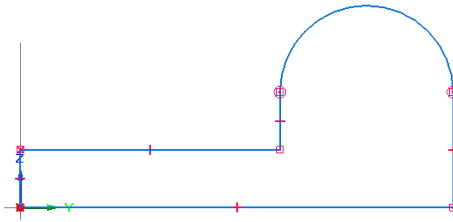

Figure 2-45 Outer loop of the profile for Tutorial 1
12. Click to specify the endpoint of the line. The profile after drawing the outer loop is displayed in Figure 2-45. Next, press Esc to exit the tool.